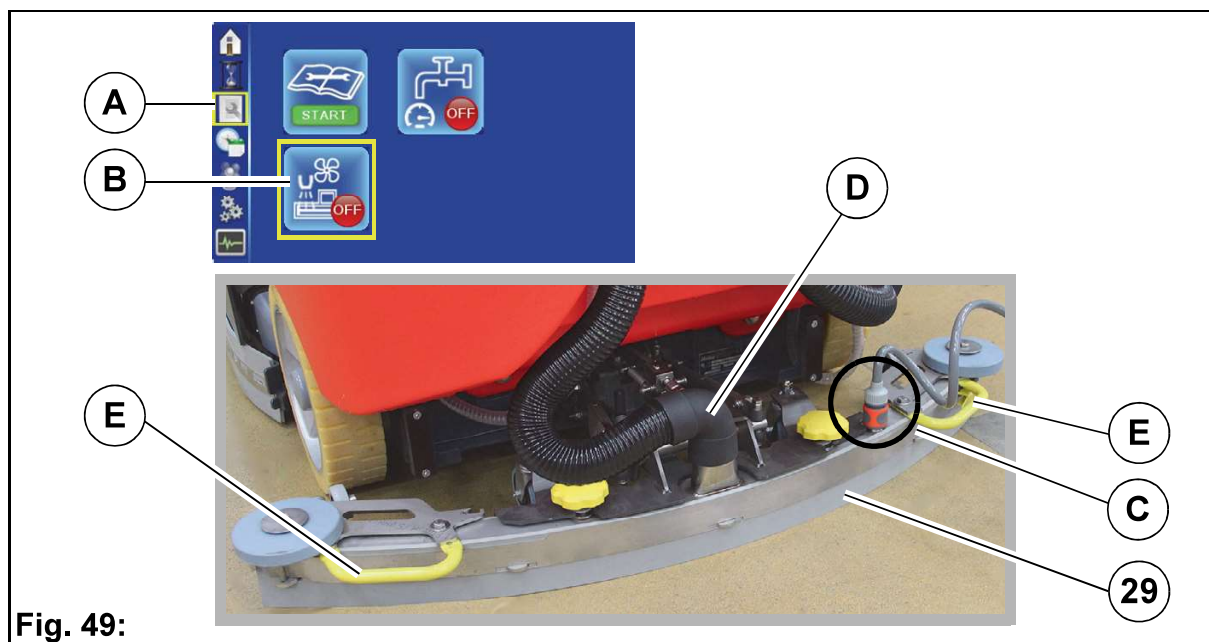

Fig. 49:
3. Pull off the suction hose **Fig. 49-D**.
2. In the sub-menu, call up menu item *Maintenance page Fig. 49-A*. Select soft key *Squeegee cleaning Fig. 49-B* with the turn-push knob and activate. The squeegee is lowered and the suction is switched on.
4. Connect hose with 1/2" quick coupling to connection of squeegee **Fig. 49-C** and to water tap.
2. Sit on driver's seat and select soft key *Squeegee cleaning Fig. 49-B* again and terminate program.